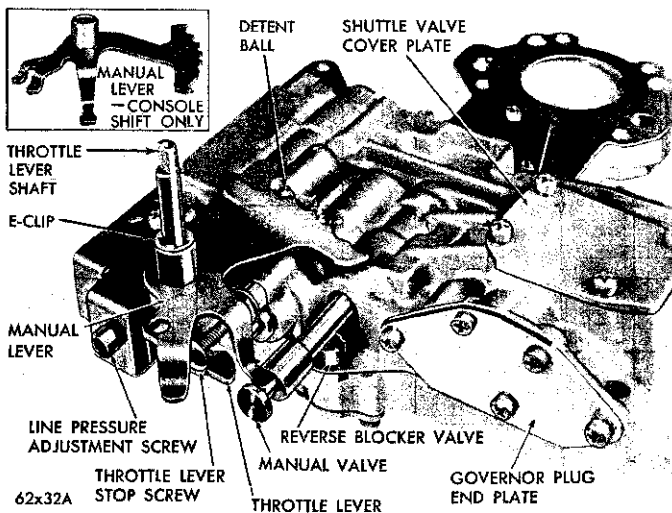

Fig. 59—Valve Body Controls (Assembled View)
shaft (Fig. 59). Remove any burrs from the shaft, then while holding the manual lever detent ball and spring in their bore with Tool C-3765 or similar tool, slide the manual lever off the throttle shaft. Remove the detent ball and spring.
(10) Remove the manual valve, carefully slide it out of the valve body with a rotating motion.
(11) Remove the throttle lever and shaft from the valve body.
(12) Remove the shuttle valve cover plate (Fig. 59). Remove the E-clip from the exposed end of the shuttle valve.
NOTE: The insert in Figure 59 shows the manual lever used in the transmissions with the console shift.